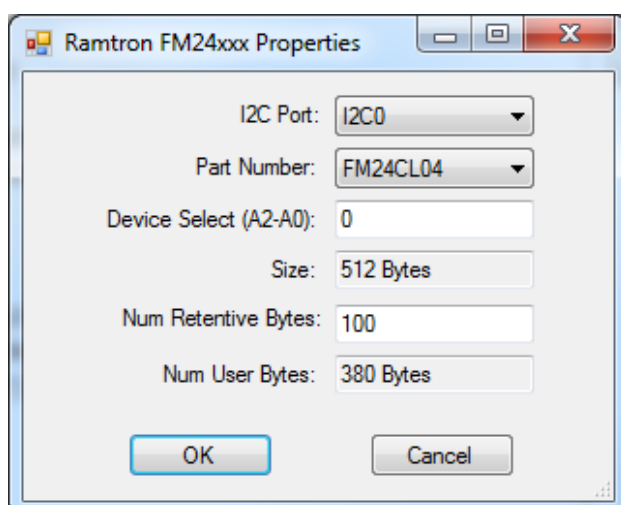

Figure 2.34 - Configure Retentive Memory
4. Enter the number of retentive bytes to use in the target in the *Num Retentive Bytes* box. The maximum available to use is 480 bytes (defaulted to 100 bytes). Refer to Figure 2-34. Any bytes not configured for retentive may be used as EEPROM memory bytes. (displayed as *Num User Bytes*). **Do not select a different Part Number. Verify it is configured for FM24CL04 only.**